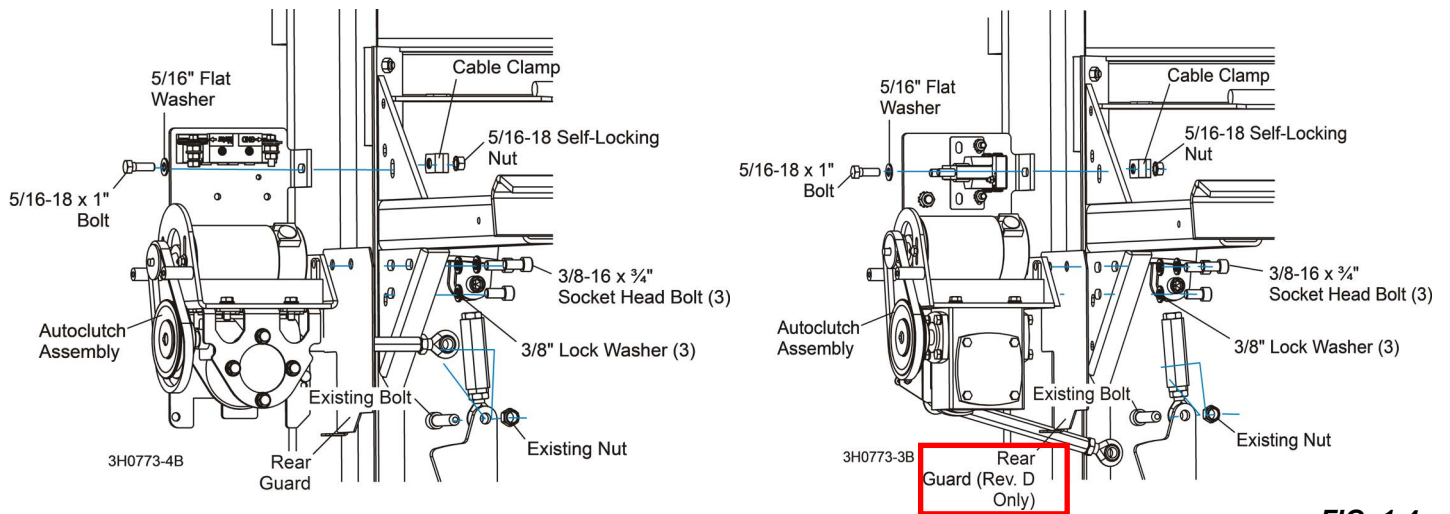

FIG. 1-4
3. Use the three socket head bolts and lock washers to install the autoclutch assembly to the saw head. **See Fig. 1-4.**